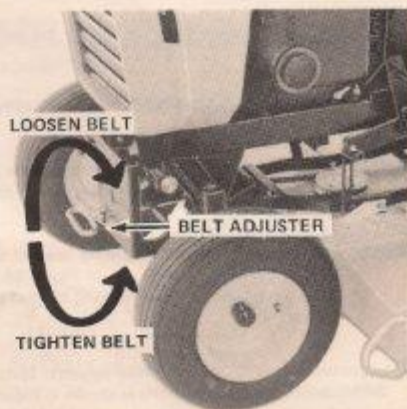

FIGURE 15 BELT ADJUSTMENT
2. Completely turn the belt adjuster handle counter-clockwise. This will permit mounting clearance at the front axle. See Figure 15.